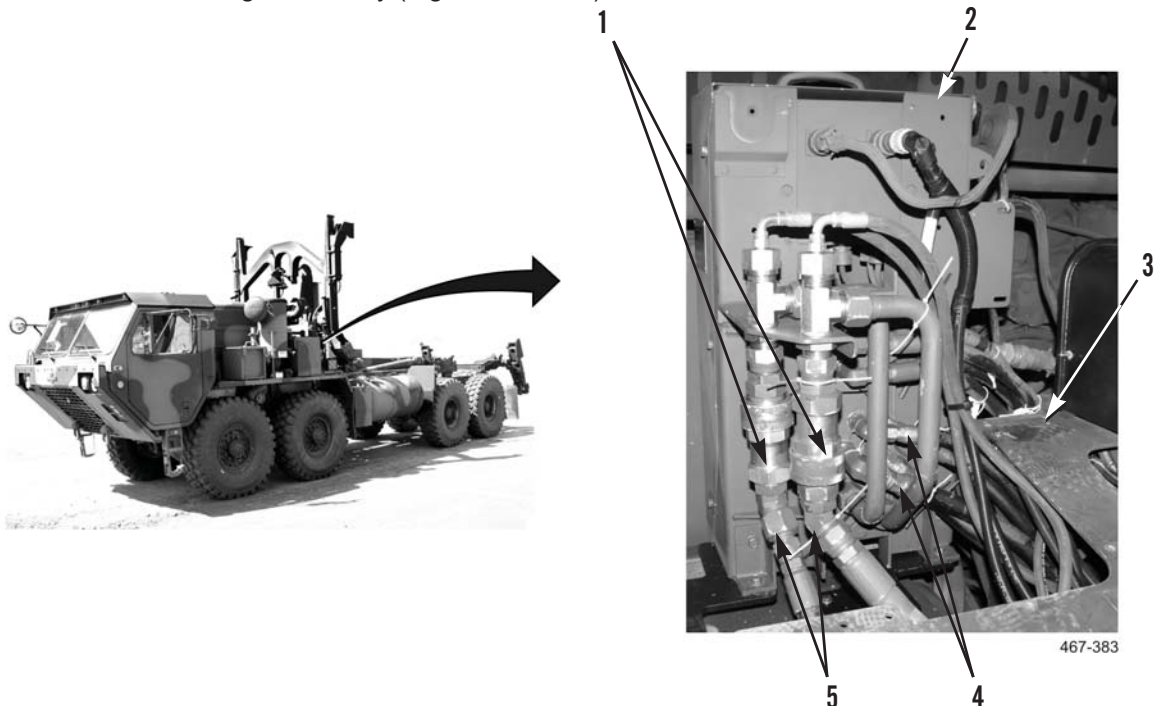

Figure 1. Remove Hydraulic Lines - HEMTT, M1120.
1. Disconnect two hydraulic hoses (Figure 1, Item 5) from quick connect fittings (Figure 1, Item 1) and route to under stowage assembly (Figure 1, Item 3).
2. Slowly disconnect four lower hydraulic hoses (Figure 1, Item 4) from fittings on control box (Figure 1, Item 2) and route to under stowage assembly (Figure 1, Item 3).